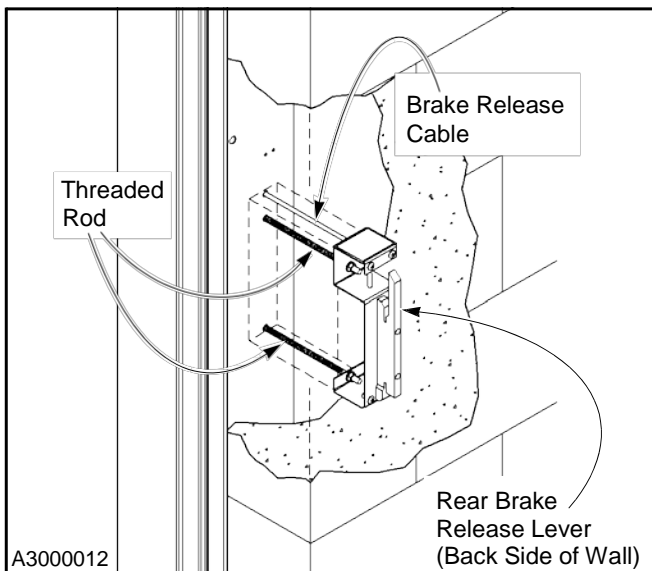

Figure 27
- Using the two lengths of threaded rod packed in the small parts carton, mount the brake release lever to the back side of the wall using the hardware provided. Be sure to use the bottom two holes drilled earlier. (See Figure 27.)